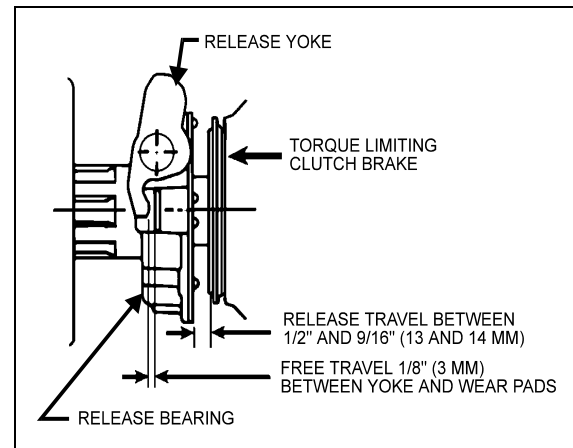

FIGURE 2: CLUTCH ADJUSTMENT
2. Measure the **release travel** (clearance between release bearing housing and clutch brake) (Fig. 2). The clearance should be between 1/2" and 9/16" (13 and 14 mm).
1. Check **free travel** as shown in figure 2. Clearance should be between 1/16" and 1/8" (1,5 and 3 mm).